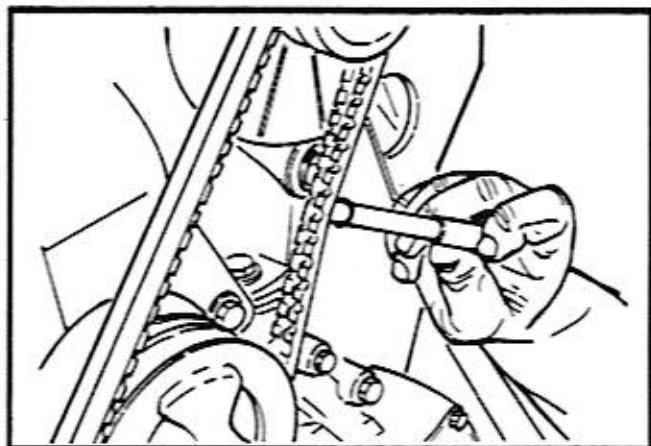
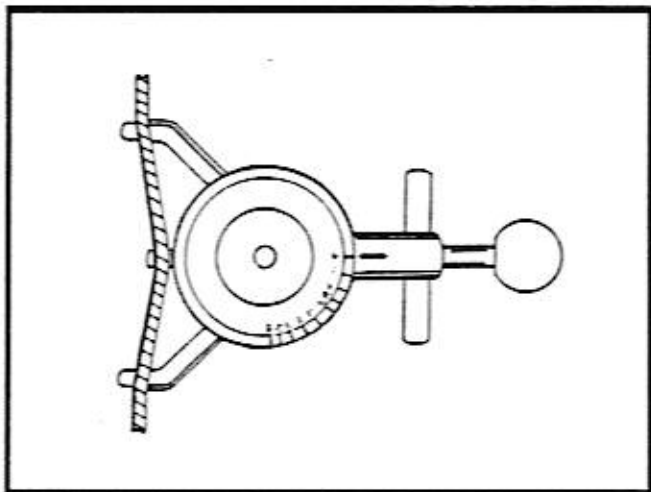

Figure 14-1. Checking V-Belt Tension (Typical)
Figure 14-2. Engine V-Belt Tension Gauge
There is only one (1) belt on the engine. This belt drives the alternator. Refer to Figure 14-1. Belt tension should be 125 to 135 pounds for a new alternator belt and 60 to 100 for a used belt (one that has been in operation for more than 10 minutes). If you are using a belt tension gauge similar to the one shown in Figure 14-2, the belt tension is read directly.